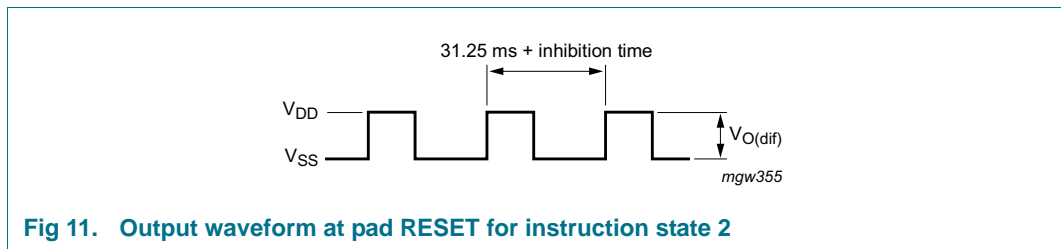
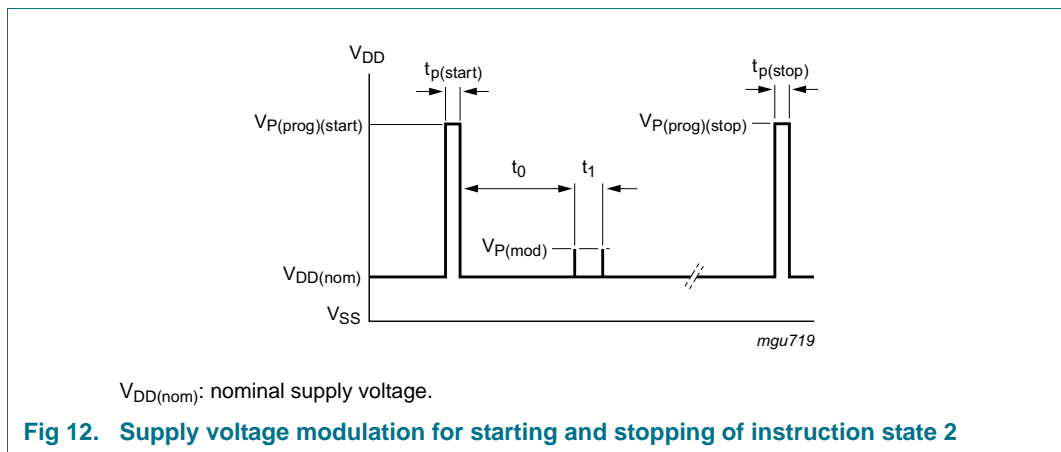

Fig 11. Output waveform at pad RESET for instruction state 2
Fig 12. Supply voltage modulation for starting and stopping of instruction state 2
Each instruction state is switched on with a pulse to  $V_{P(\text{prog})(\text{start})}$ . After this large pulse, an initial waiting time of  $t_0$  is required. The programming instructions are then entered by modulating the supply voltage with small pulses (amplitude  $V_{P(\text{mod})}$  and pulse width  $t_{\text{mod}}$ ). The first small pulse defines the start time, the following pulses perform three different functions, depending on the time delay ( $t_d$ ) from the preceding pulse (see Figure 7, Figure 8, Figure 11 and Figure 12):
- State 2: inhibition time has a value of  $n \times 0.122$  ms. A signal with periodicity of  $31.25$  ms +  $n \times 0.122$  ms appears at pad RESET and as current modulation at pad  $V_{DD}$  (see Figure 11 and Figure 12)
See Figure 7, Figure 8 and Figure 12.